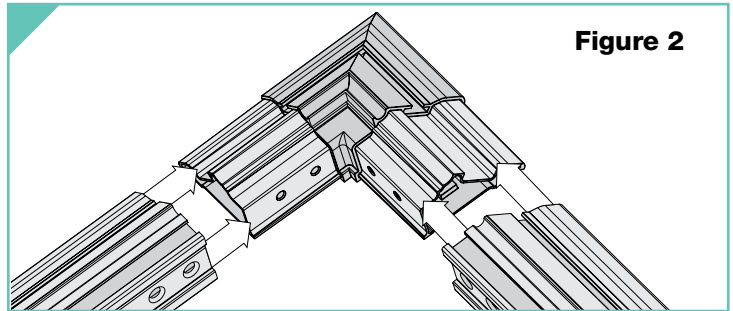

Figure 2
2. Insert the Frame sections onto the corners pieces (See Fig. 2) and secure them with provided screws.